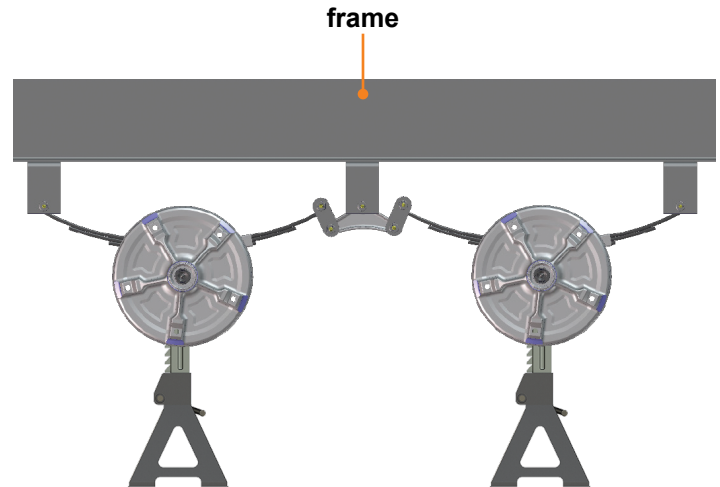

Fig.2
4. Using a floor jack, lift the axles slightly and place the additional properly-rated jack stands under the axles (Fig.2) so that the shackle bolts can be driven out with a hammer.